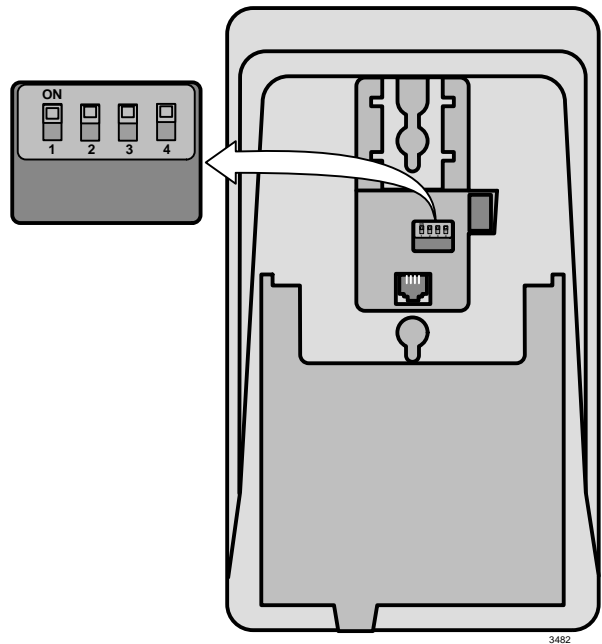

Figure 9-23 DKT2001 DIP Switch Settings
1. Set the DIP switches to match Figure 9-23. The DIP switches are preset from the factory for the USA and Canada. Refer to Table 9-1 on Page 9-4 for other country settings.